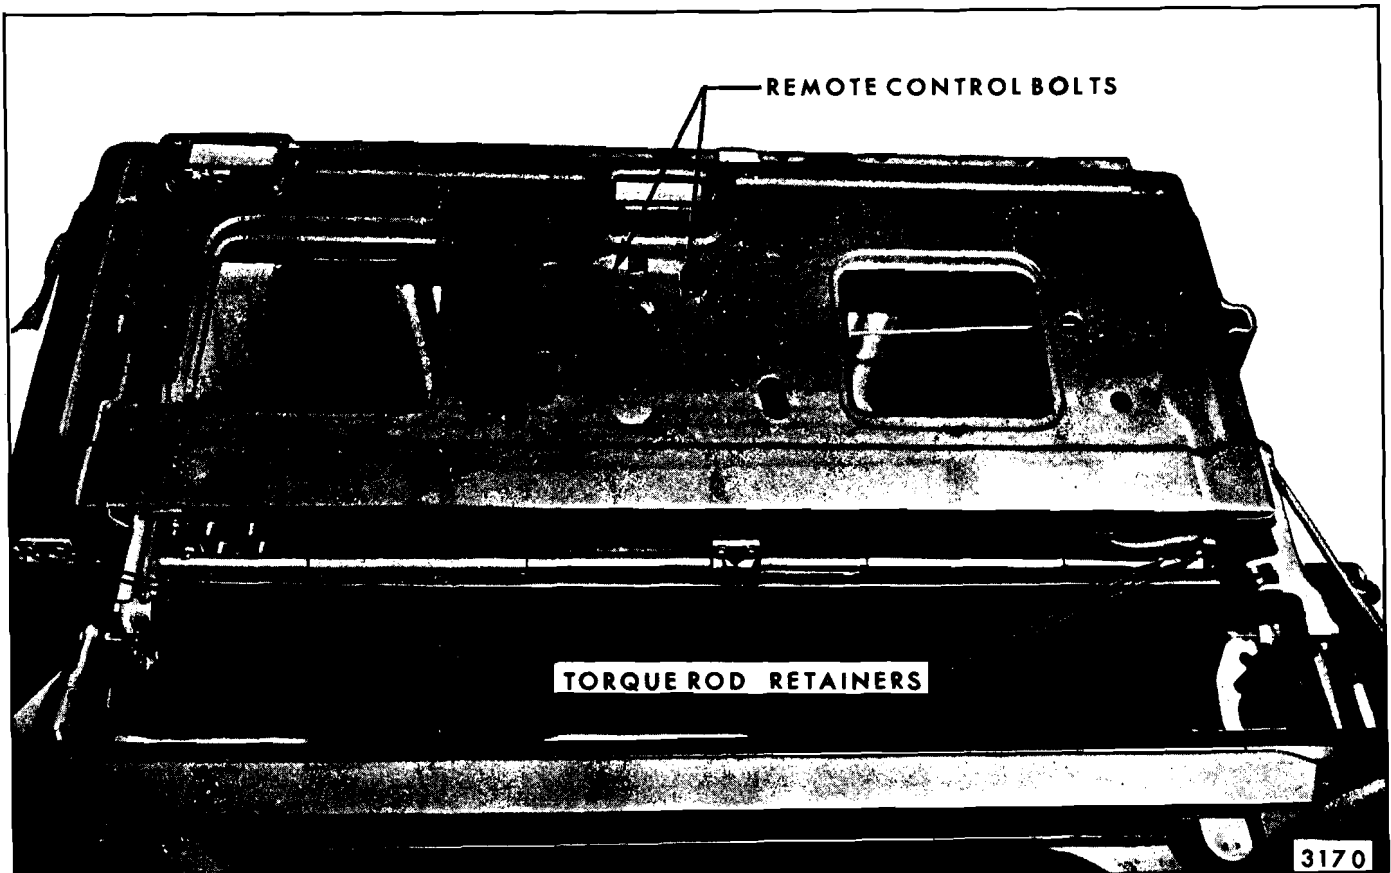

Fig. 9-8—Dual Gate Torque Rod Retention
3. Lower tail gate to gate position and remove torque rod to gate retainers (Fig. 9-8).